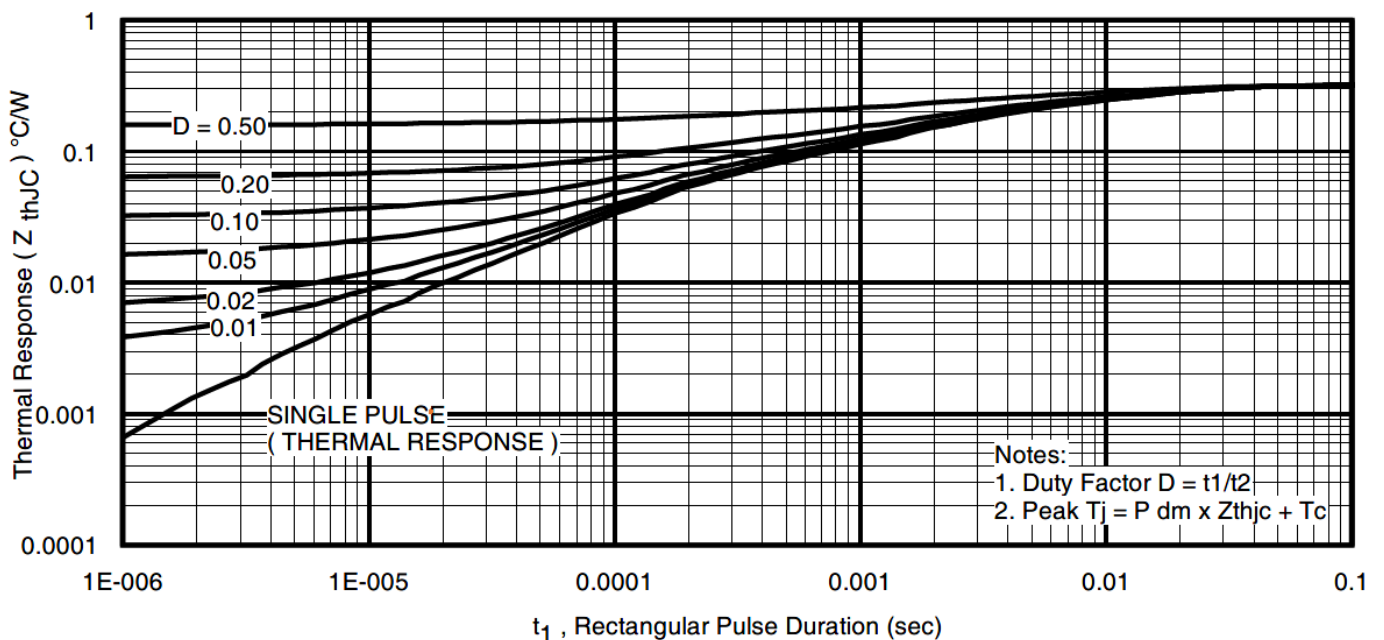

Fig 11. Maximum Effective Transient Thermal Impedance, Junction-to-Case
- ① Repetitive rating; pulse width limited by max. junction temperature. (See Fig. 11)
$Z_{thJC}(D, t_{av})$ = Transient thermal resistance, see Figures 11)